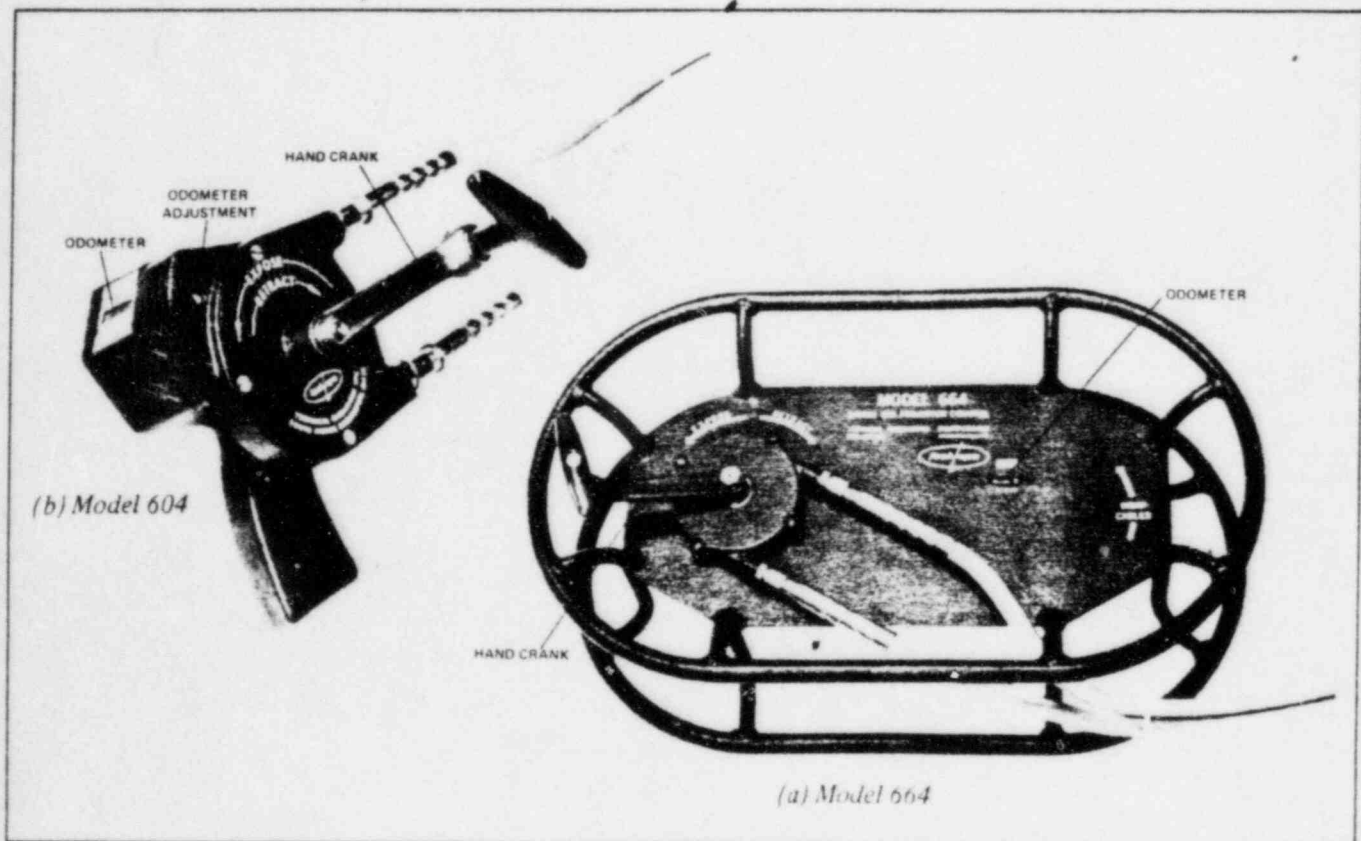

Figure 4-1. Control Units.
b. At the control unit (in a shielded area), rapidly rotate the hand crank in the EXPOSE (counterclockwise) direction to move the source out of the projector and into the guide tubes toward the radiographic focal point. Both the Model 664 and 604 Control Units, shown in Figure 4-1 operate in similar fashion. Continue to rotate the hand crank until the source reaches the snout which serves as a mechanical stop for the source. The odometer reading will indicate the total distance the source traveled (approximately seven feet for one guide tube section, fourteen feet for two sections, and twenty-one feet for three sections).
The odometer in both the 664 and 604 control units, has a screwdriver adjustment control. If the hand crank is in its full RETRACT position, the odometer should indicate 000. If not, slowly adjust the control to obtain a 000 reading. The odometer adjustments are located in Figure 4-1(b) for the 604 control unit and Figure 6-3 for the 664 control unit.